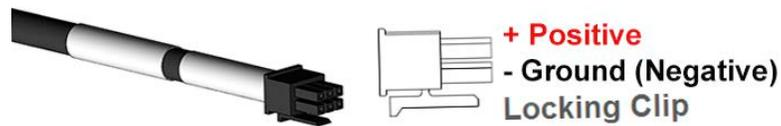

Figure 4-28. Pins on the Power Supply Connector
3. The upper pins of the Molex connector (shown in Figure 4-28) are positive and the lower pins are the ground (negative). A locking clip holds the connector in place.